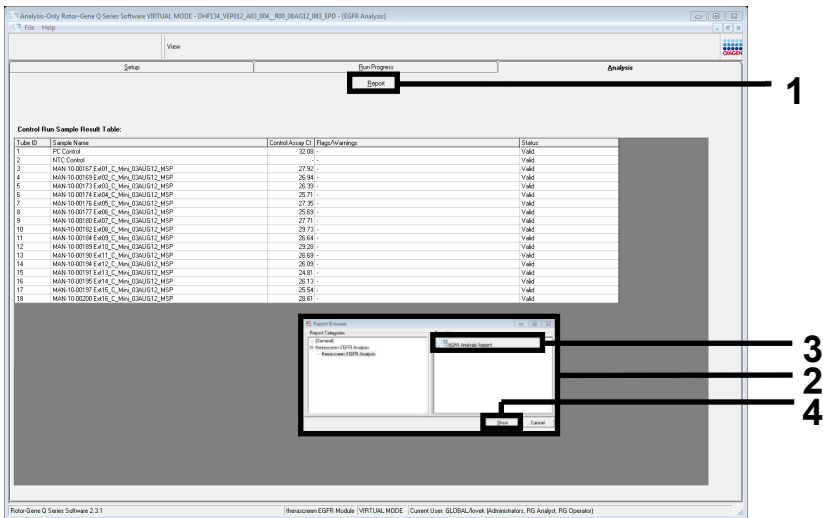

Figure 9. Selecting the “EGFR CE Analysis Report” (1 = “Report” button; 2 = “Report Browser” window; 3 = “EGFR Analysis Report” selection; 4 = “Show” button).
21. Click “Report” to produce a report file. The “Report Browser” window opens. Select “EGFR CE Analysis Report” under “Templates” and then click “Show” (Figure 9).